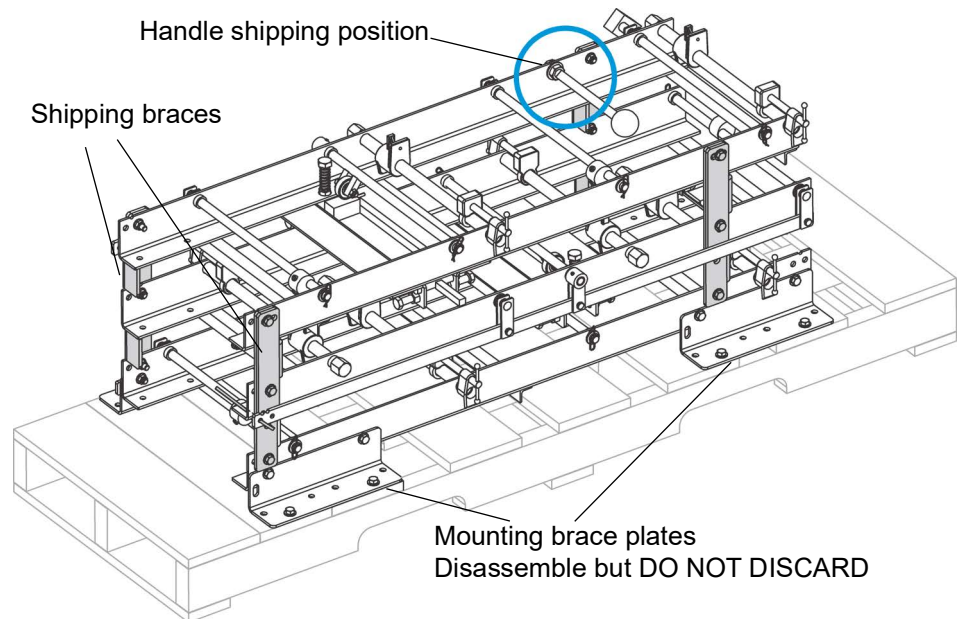

FIG. 2-1
The Shingle/Lap Siding Option (SLR) (see FIG. 2-1) creates tapered shingles or siding with your Wood-Mizer sawmill.
1. Uncrate the SLR; discard the shipping braces (total 8) and fasteners. See FIG. 2-1.